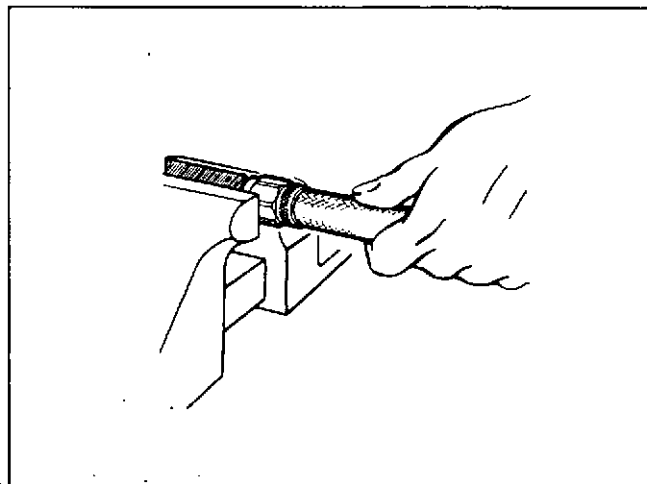

Fig. 7-14 (N10737). Install The Hose Into The Socket.
4. Hold the hose so that it enters straight into the socket, Fig. 7-14. This will prevent a bad connection in the socket. Turn the hose counterclockwise while you push the hose into the socket.